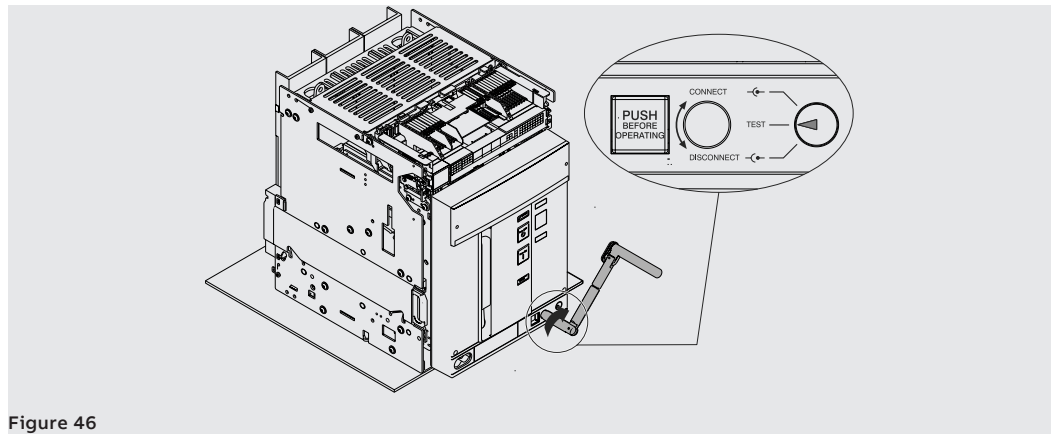

Figure 46
10. Turn handle clockwise until pushbutton projects and signaling device indicates that circuit-breaker is in position **TEST**. See Figure 46.